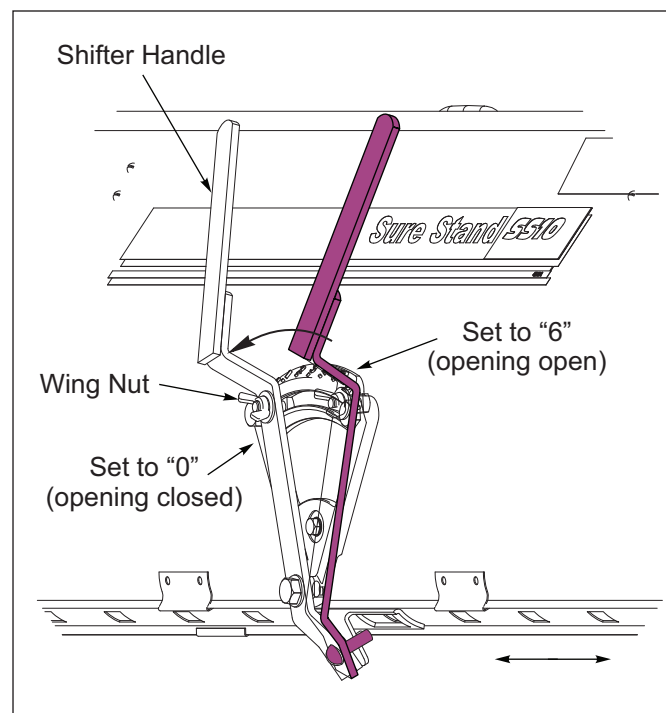

Figure 5-11: Shifter Handle
- Check that the Shifter Handle functions properly in relationship with the Shifter Plate. **See Figure 5-11.**